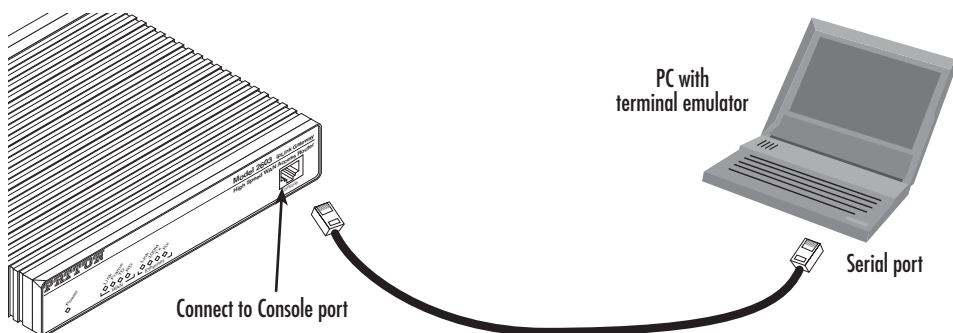

Figure 1. Connecting OnSite to the PC's serial port
1. Using the included combination RS232/Ethernet cable and DB9-RJ45 adapter, connect a PC's serial port to the OnSite's *Console* port (see figure 1).